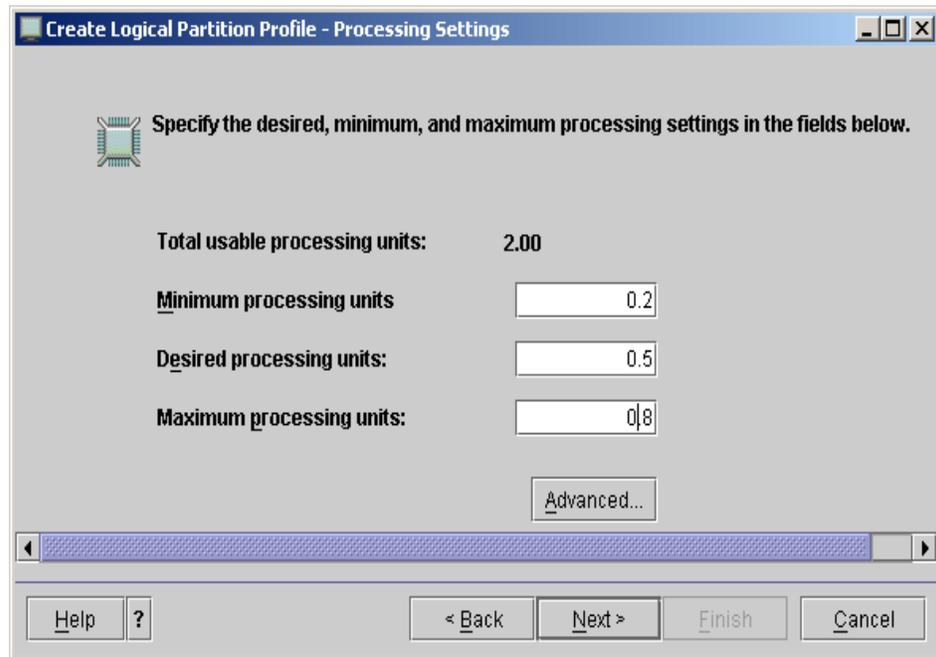

Figure 3-8 Shared processor settings
8. Choose the shared processor settings and specify the processing units, as shown in Figure 3-8.